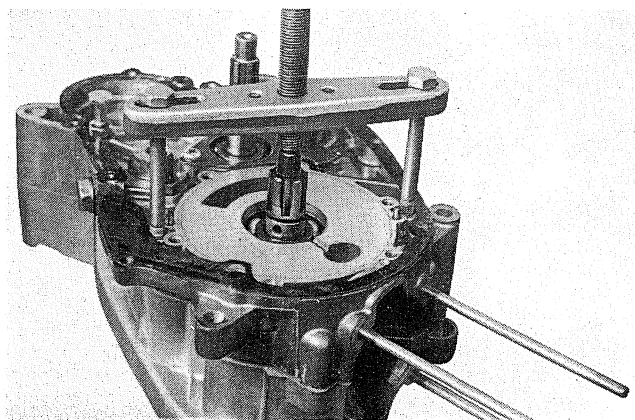

Fig. 3-14-2
2) Install the crankcase dividing tool on the right half of the crankcase, and alternately tap the transmission main axle and the side of the right half with a plastic tip hammer, so that the crankcase can be divided into two halves. (Fig. 3-14-2 and 3)